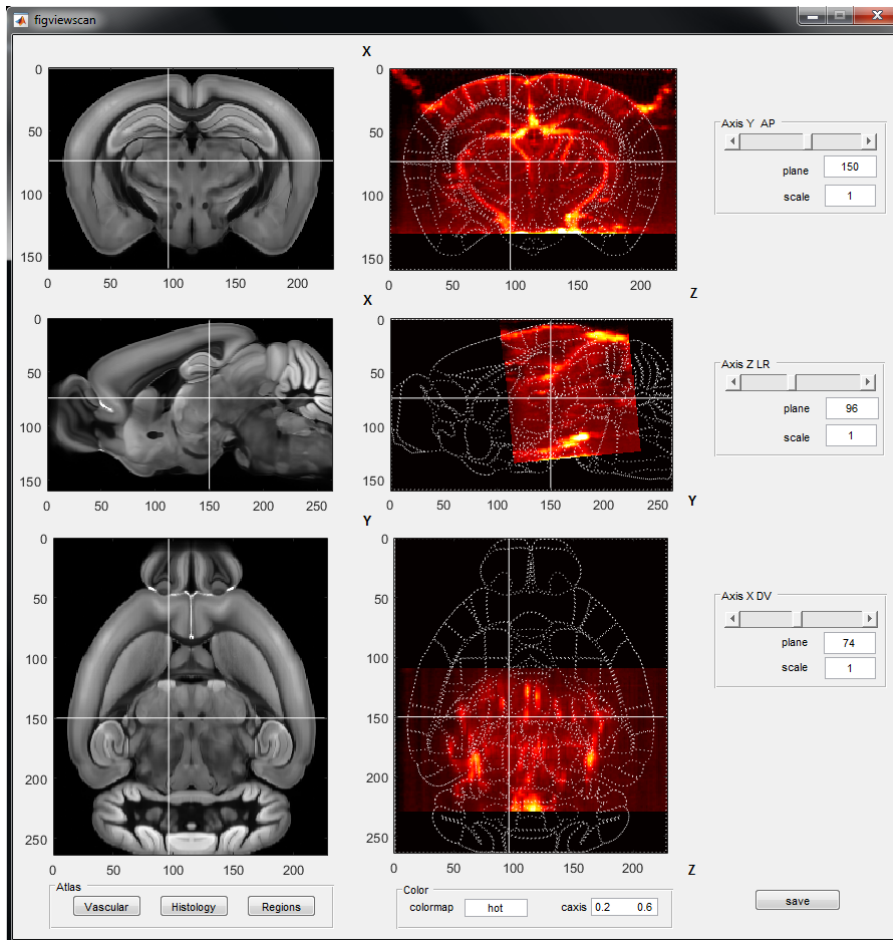

Figure 3. Graphical user interphase for data registering with the Allen mouse CCF atlas.
**registrationccf.m** opens a graphic user interface to register the anatomical scan with the Allen Mouse CCF, see Figure 3.